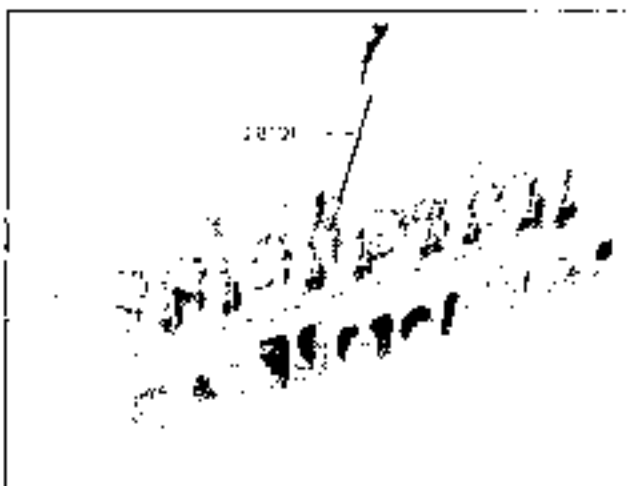

Fig. 6-89 Cleaning Valve Guide
4. Clean valve guides thoroughly, using valve guide cleaner J 8101 (Fig. 6-89).